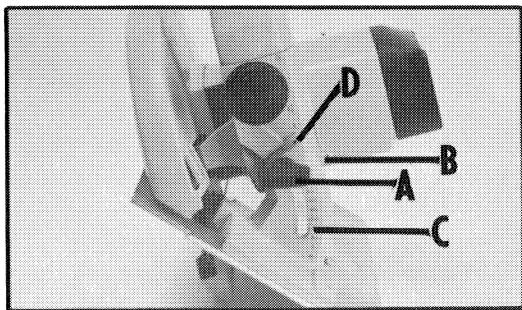

Fig. 8
2. Loosen the bevel adjusting knob (A) Fig. 8.
3. Swing the base until the indicator (B) Fig. 8, lines up with the desired graduation line on the angle segment (C), and tighten knob (A).
4. Your saw is equipped with an adjustable positive stop at the 45 degree bevel position. After making a preliminary setting following the above steps, make a cut on a piece of scrap wood and check the accuracy of the setting. Turn set screw (D) Fig. 8, inward or outward as needed to produce a true 45 degree bevel cut. With the set screw (D) accurately positioned, the base will return to the same 45 degree setting without need for visual alignment of the graduation markings.